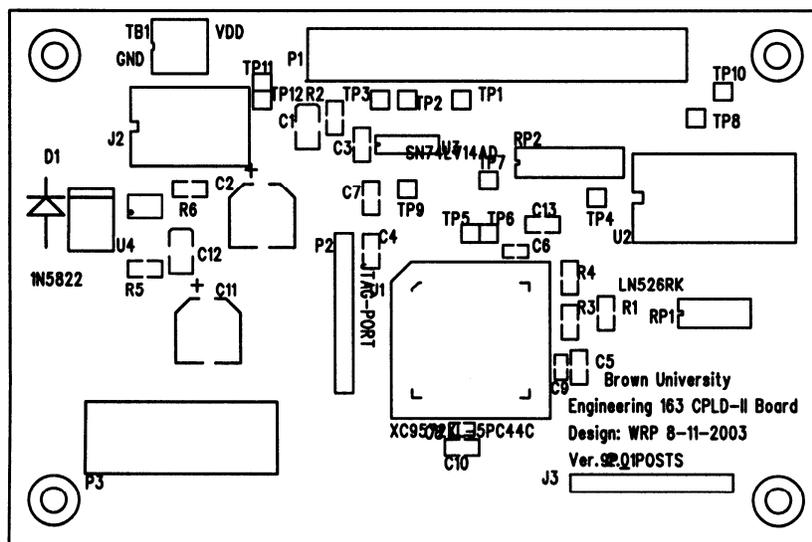

**Figure 10.1: Block Diagram of the Engineering 163 CPLD Board based on the Xilinx XC9572XL**
**The Board Itself:** Figure 10.1 shows a block diagram of what I have built. The actual board encompasses the things inside the dotted rectangle. There is a 26-pin ribbon cable connector on the board and the cables we provide have a 24-pin DIP plug on the user end. (This is the rectangle on the left in the figure outside the dotted box.) You can insert that plug into a protoboard just as you would a DIP integrated circuit. It affords what I hope is a quick and convenient way to make up to 18 logic I/O connections to the XC9572XL CPLD. The board also has a two-digit, seven-segment display with current limiting resistors wired to 8 other pins of the CPLD. The display has a common-cathode configuration with the two cathode terminals also going to the DIP plug. Three pins carry power and ground connections and one more of the 24 pin DIP connector pins is an I/O line that can be dedicated as a global reset line.